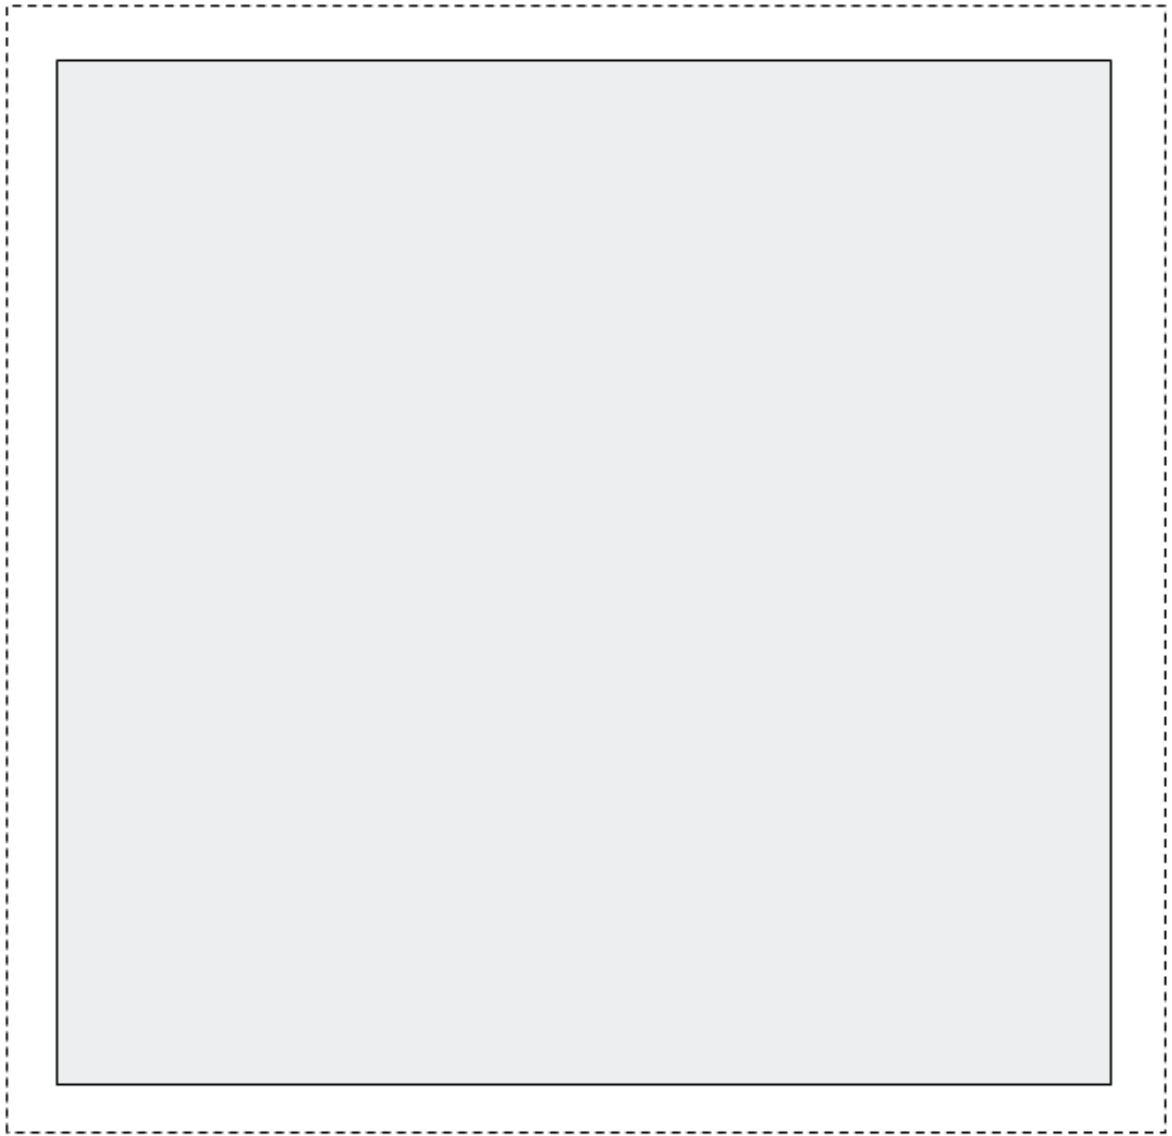

Figure 27: Template 2, "capacitor"
- Using the 8B pencil, fill out both sides of the template (see figure 27) with identically positioned squares (light gray surface surrounded by an uninterrupted line) and then cut the square out along the dotted line.